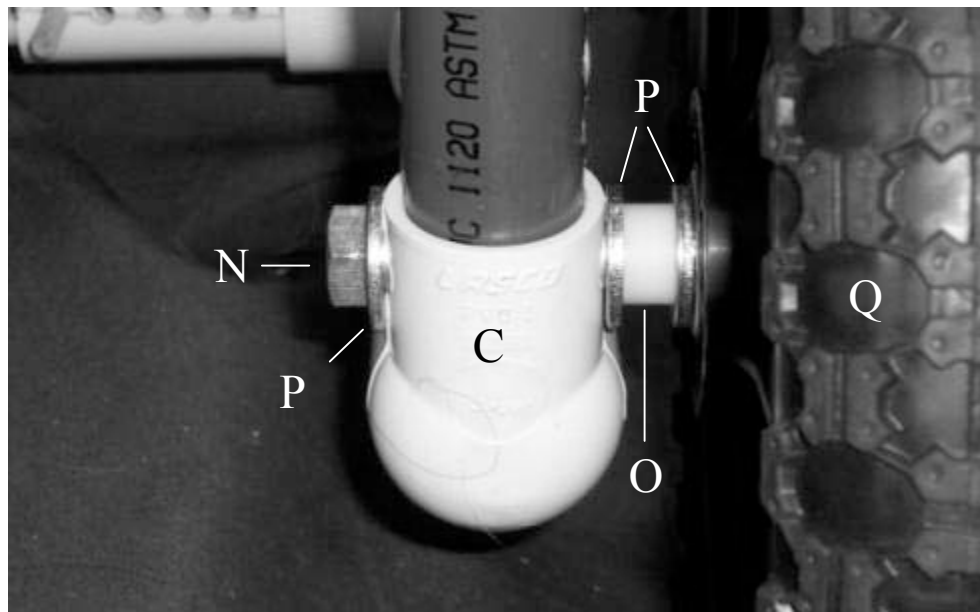

FIGURE 29 - Axle/Wheel Assembly.
Step 2. Place washer on 4-1/2 in bolt to serve as wheel axle. Insert into 1/2 in diameter hole through Part C so that the head of the bolt (axle) is located on the inside of the frame structure. Place another washer onto the axle adjacent to the outboard side of Part C, followed by the nylon spacer and another washer. Place the wheel on the axle followed by the 1/2 in bolt nut. See Figure 29 for complete wheel assembly. Use the adjustable wrench to tighten the nut onto the axle. Repeat these steps for the other wheel assembly.